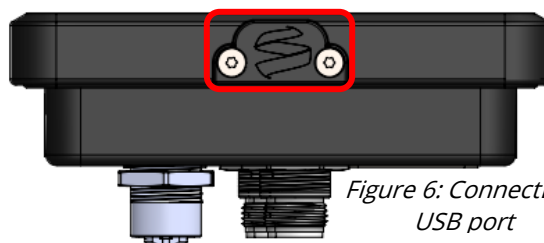

Figure 6: ConnectBox USB port
5. **REMOVE** ConnectBox USB port plug with T8 Torx driver (Figure 6).